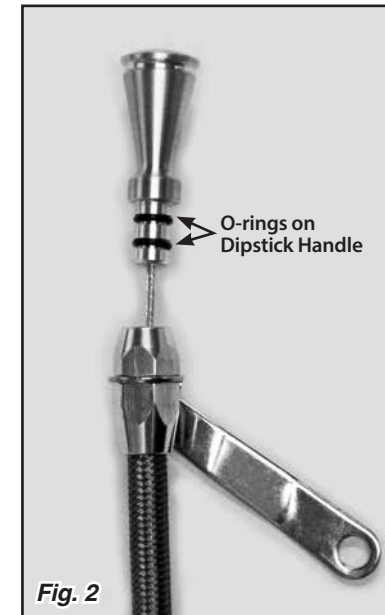
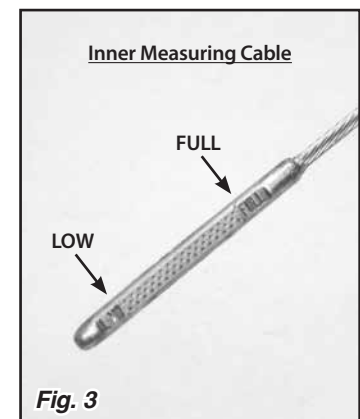

Fig. 2
Fig. 3
Step 4: Lightly lubricate the o-rings on the dipstick handle with engine oil. **Fig. 2** Insert the handle and inner measuring cable fully into the dipstick tube assembly. Fill the engine with the appropriate amount of oil for your particular application. Verify that the oil level is at the FULL mark on the inner measuring cable. **Fig. 3** If it is not, call Lokar Technical Support for assistance. If the oil level reads correctly, then return the handle and inner measuring cable into the dipstick tube assembly.